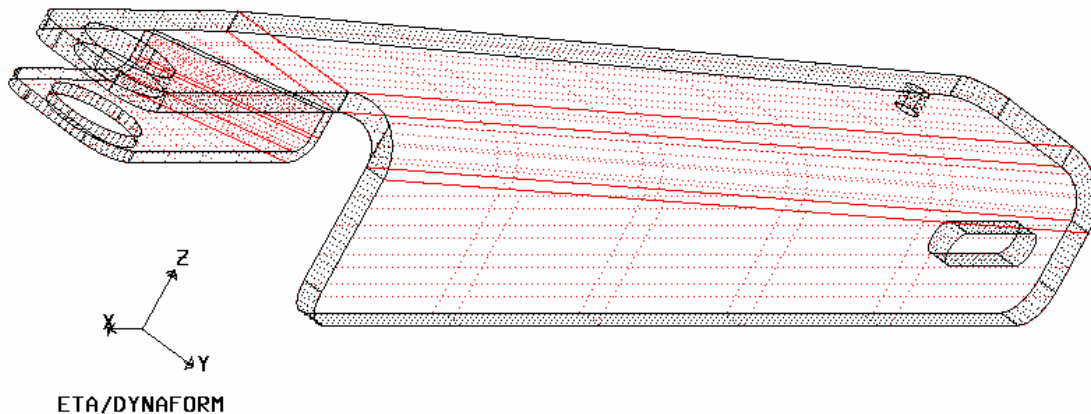

Figure 5.6.10 Add Thick Surfaces
4. ADD THICK SURFACE and REMOVE THICK SURFACES functions are used to add or remove surfaces from the thickness group in case the program does not produce perfect grouping. In this example it is necessary to add surfaces as in Figure 5.6.10.